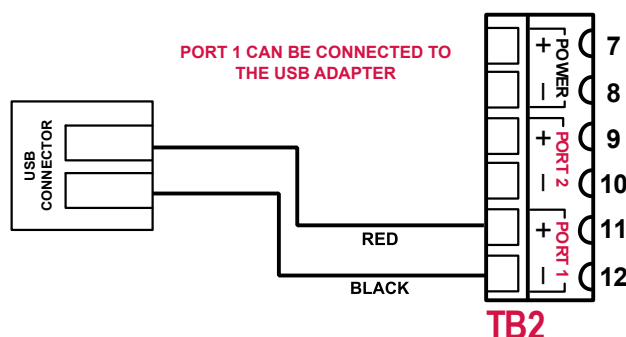

Figure A.16 - Wiring of NUFLO USB adapter (required only when purchased as a kit)
3. Wire the adapter cable to Port 1 on the NUFLO Scanner 2105 flow computer main circuit board as shown in Figure A.16 (black wire to negative terminal).